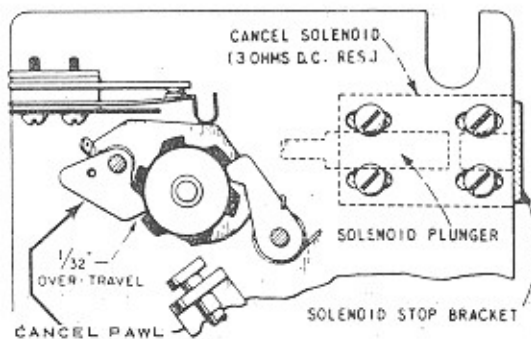

Figure 4.
2. Adjust the position of the Cancel Solenoid Stop Bracket so the Cancel Pawl over-travels the ratchet teeth approximately 1/32" when the solenoid plunger bottoms against the Stop. Set the Stop mounting screws firmly after adjustment. See Figure 4.